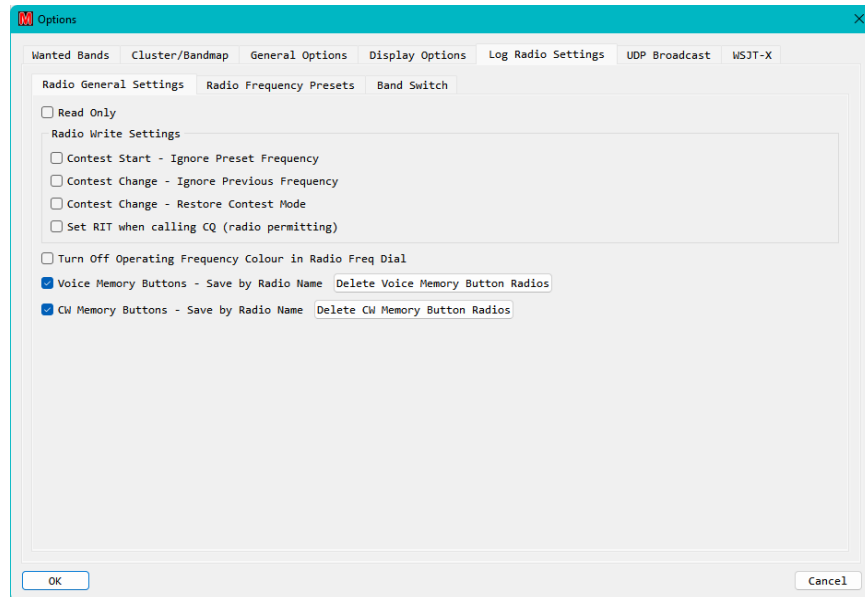

Figure 92 – Radio General Settings
- In ‘Radio General Settings’ (Figure 92) there are three options⁷⁹ to control the usage of band presets and per contest frequencies/modes: